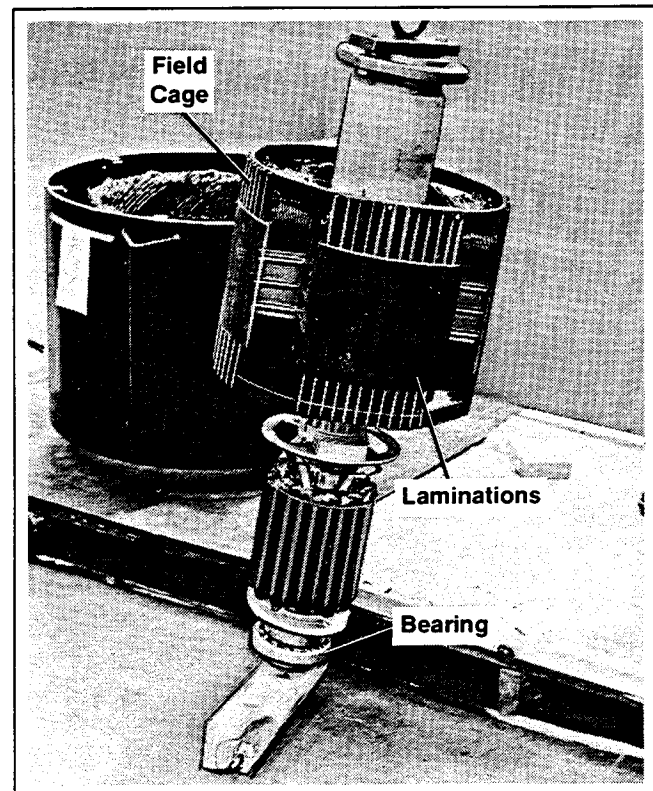

Figure 5-8. Rotor Handling
19. Lower rotor allowing bearing end to rest on wood block as shown in Figure 5-8. Slowly lower rotor to horizontal position taking care not to damage field cage or laminations.